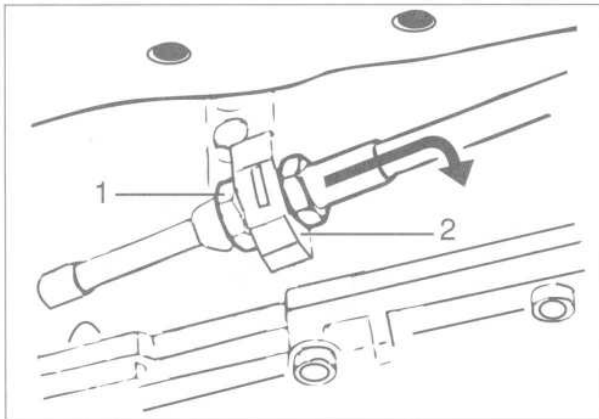

Fig. 13. Remove nut (1) from selector cable and slide cable out of bracket (2).
5. Position selector lever in park. Loosen selector lever cable clamping nut on lever. Remove cable from bracket and slide cable out of selector lever. See Fig. 13.